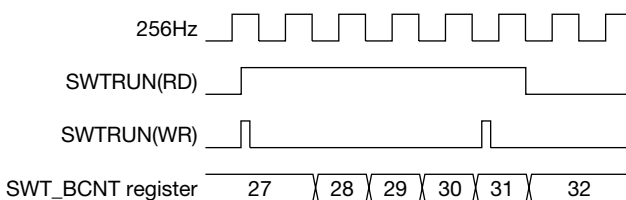

Figure 16.8.1: Run/Stop control timing chart
- The stopwatch timer switches to Run/Stop mode when data is written to SWTRUN (D0/SWT_CTL register) synchronized with the 256 Hz signal falling edge. When 0 is written to SWTRUN, the timer switches to Stop state after counting an additional “+1.” 1 is retained for SWTRUN reading until the timer actually stops. Figure 16.8.1 shows the Run/Stop control timing chart.